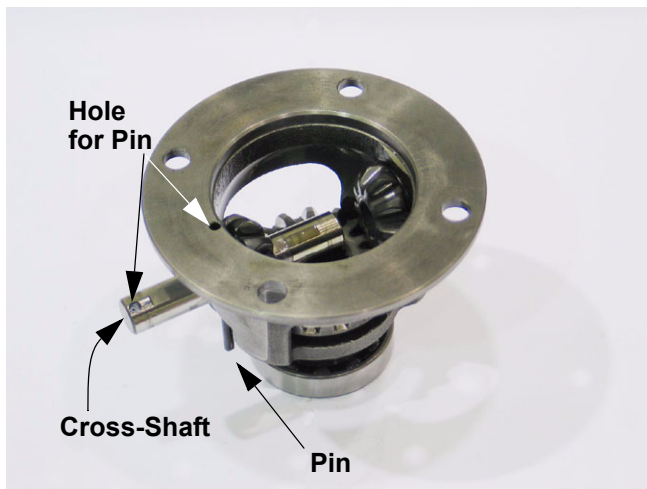

Figure 13.9
- 13.9. Drive out the pin and remove the cross-shaft. See Figure 13.9.